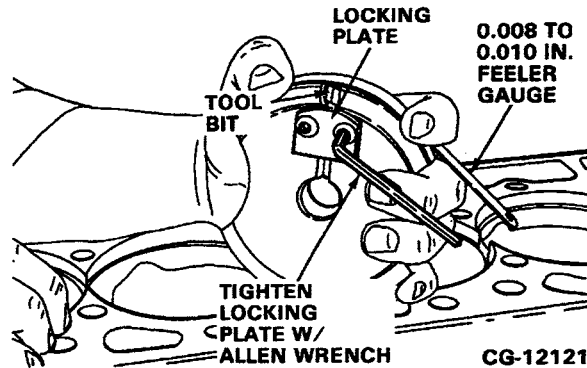

Figure 6.40. Pre-Set Tool Bit
- a. PRE-SET TOOL BIT by placing a 0.008 in. to 0.010 in. feeler gauge on the O.D. of the cutter head. Push the tool bit out until it touches the feeler gauge. Lock the tool bit in place using an Allen wrench as shown in Figure 6.40.